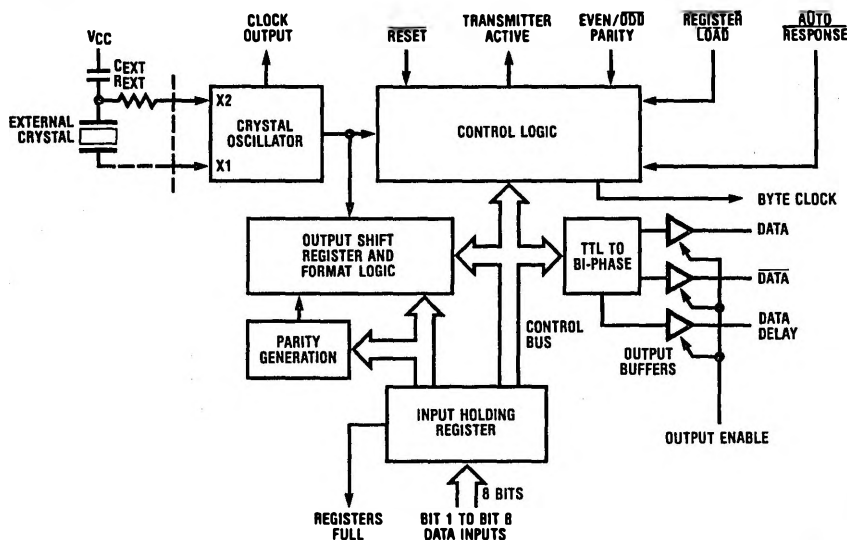

FIGURE 2
Figure 2 is a block diagram of the DP8342 Biphase Transmitter/Encoder. The transmitter/encoder contains a crystal oscillator whose input is a crystal with a frequency eight (8) times the data rate. A Clock Output is provided to drive the DP8342 receiver/decoder Clock Input and other system components at the oscillator frequency. Additionally, the oscillator drives the control logic and output shift register/format logic blocks.